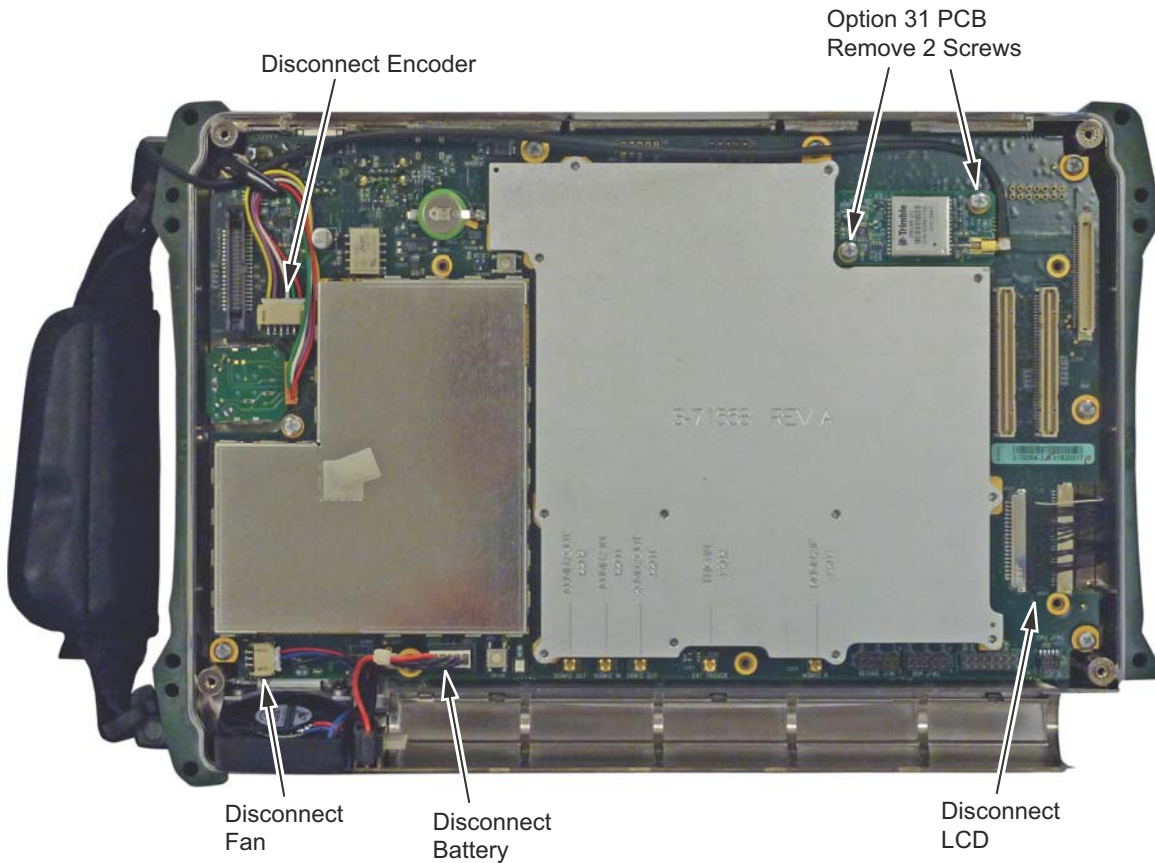

Figure 5-6. Disconnect the Cable Connectors on the Main PCB Assembly
3. Disconnect the Fan connector on the Main PCB Assembly (Figure 5-6).